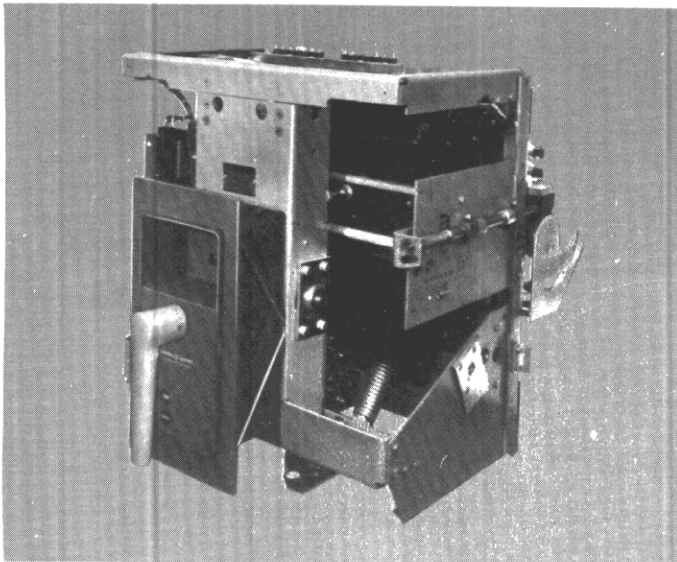

Fig. 3-16. AKR-75 circuit breaker (manually operated)
H. AKR-75 Circuit Breaker (Fig. 3-16)